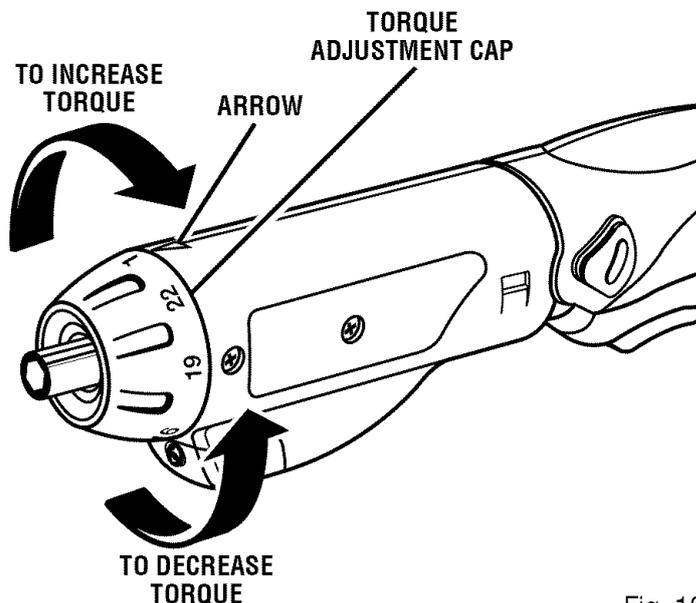

Fig. 10
See Figure 10.
- To increase or decrease torque, rotate torque adjustment cap in the direction of the arrows as shown in Figure 10.